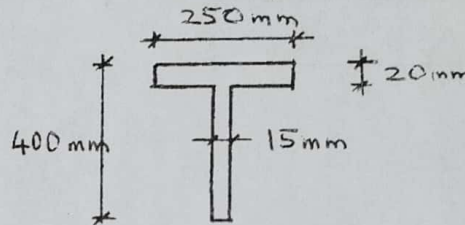

Figure 1
- a. Using a yield strength of 320 N/mm^2 , determine the shape factor for the beam section in Figure 1.
The T-Beam in Figure 1 is made from a material with a yield strength of 250 N/mm^2 , determine